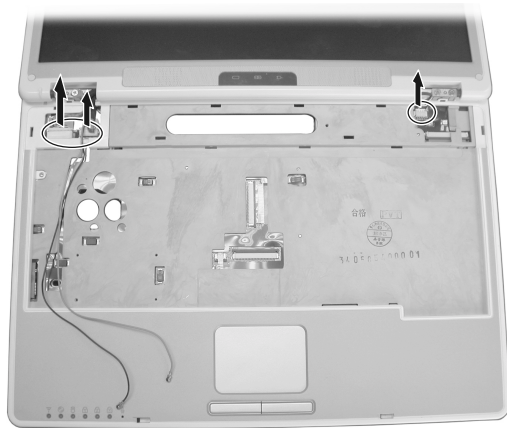

Figure 2-19 Disconnect the three cables
4. Disconnect the three cables from the motherboard. (Figure 2-19)